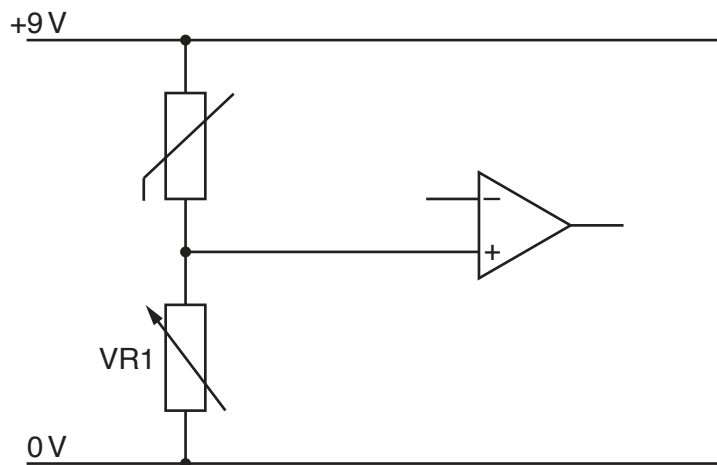

Fig. 17
- (vi) Fig. 17 shows the potential divider output connected to an operational amplifier (Op Amp), which will be used to compare two voltages.